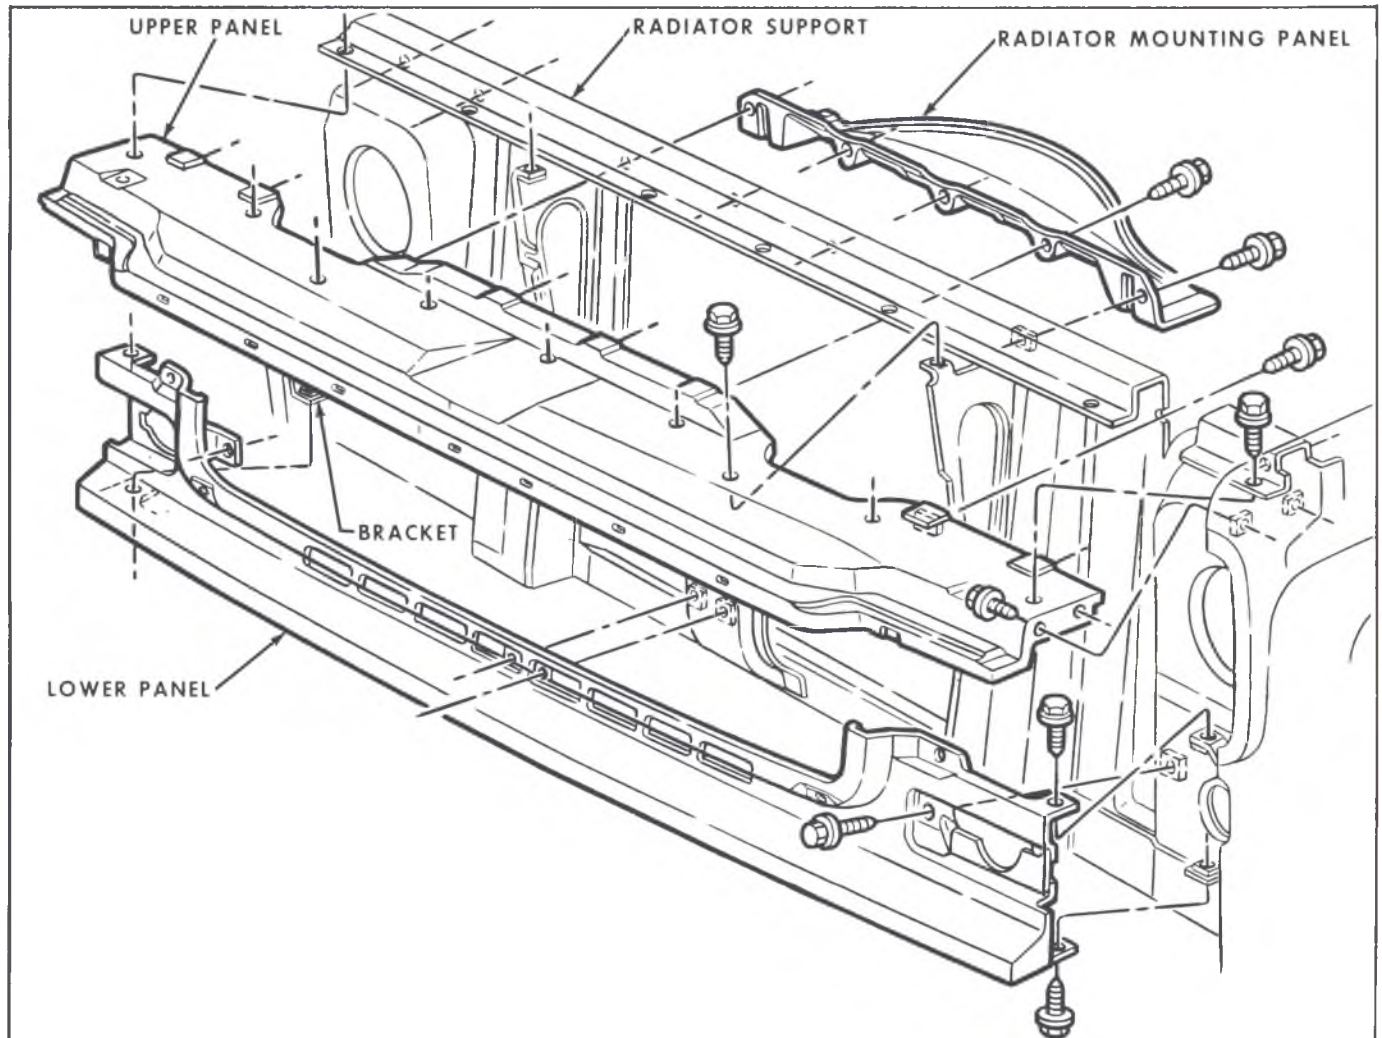

Fig. 11—Radiator Upper and Lower Grille Panels—CK Series
9. Remove upper and lower radiator grille panels. (Fig. 11).